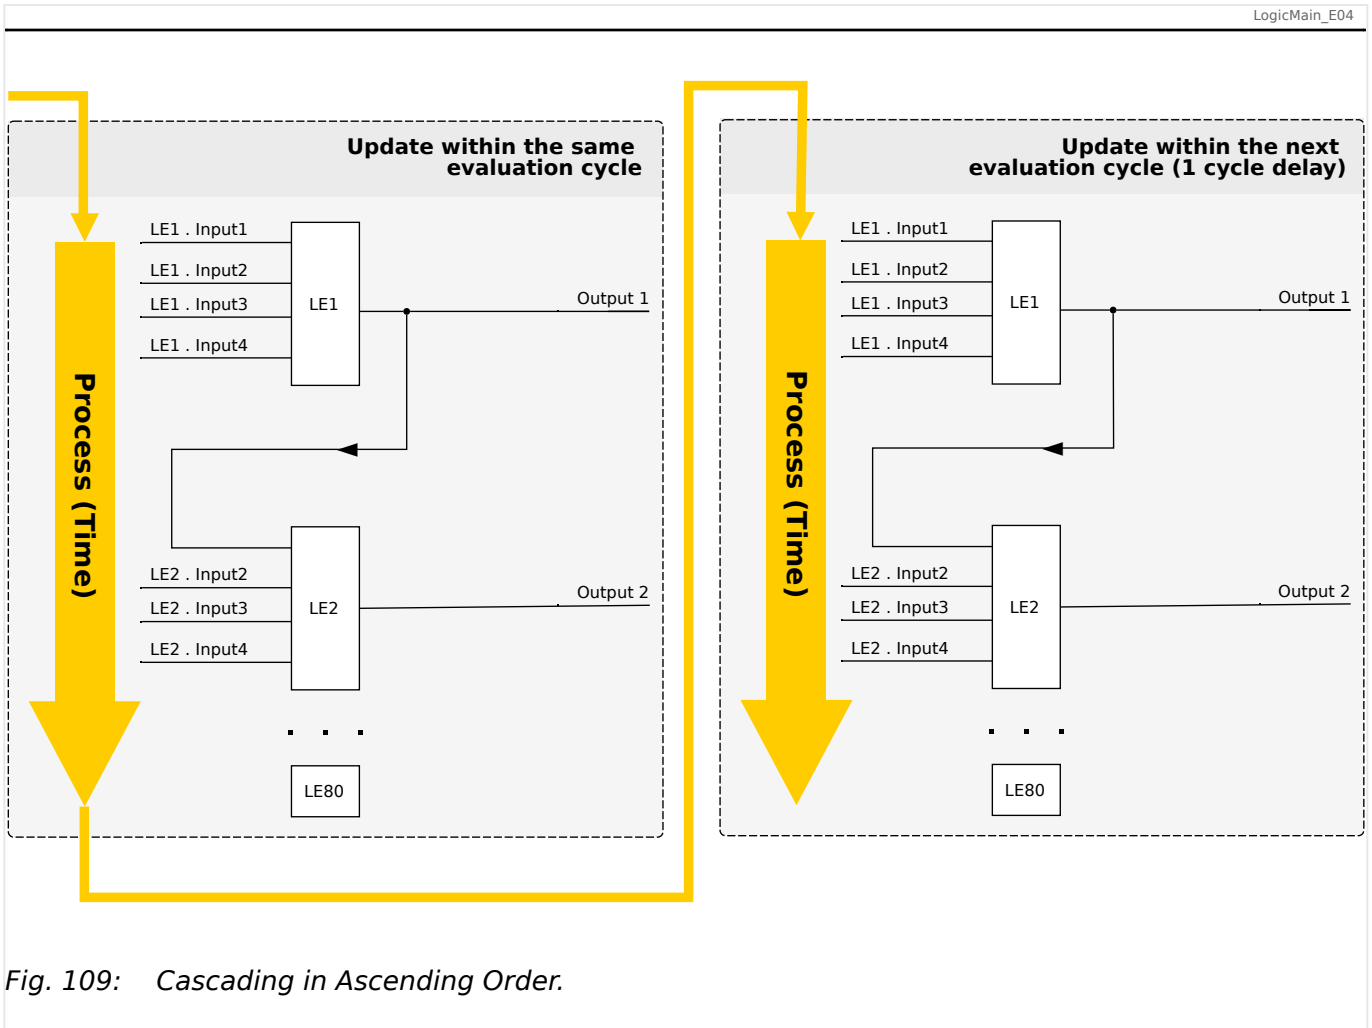
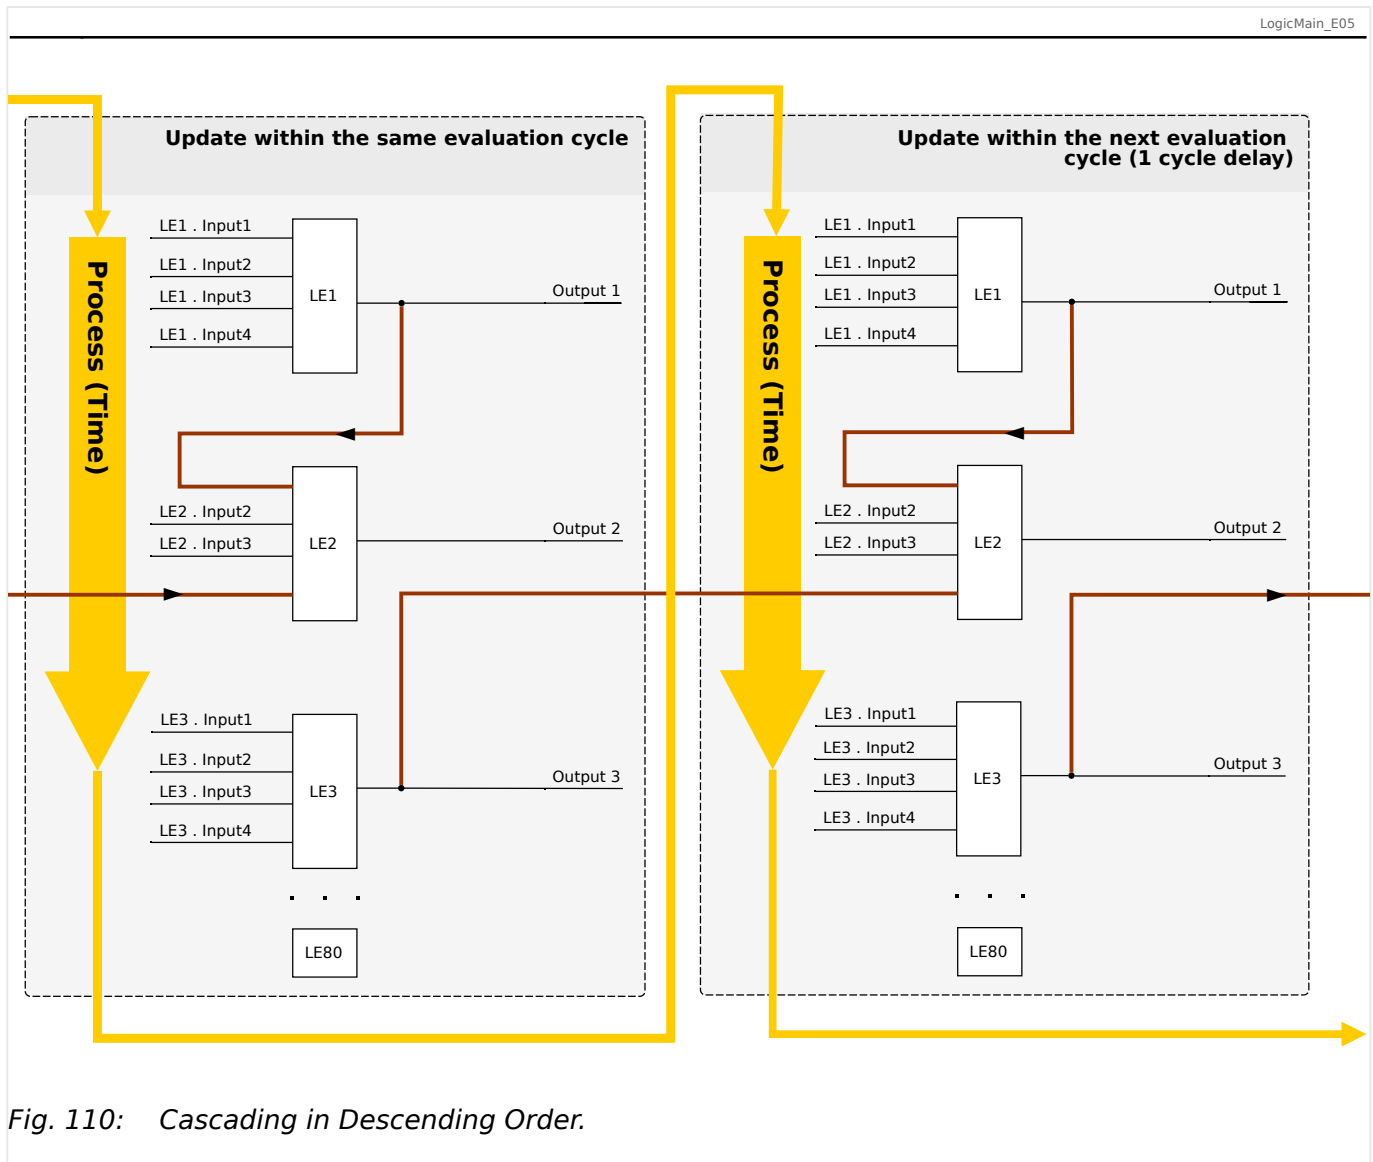

Fig. 109: Cascading in Ascending Order.
Fig. 110: Cascading in Descending Order.
- **Ascending** sequence means that some output is fed into the input of a logic equation with **higher** number. For instance, diagram  Fig. 109 below shows an example where the result of Logic Equation LE1 is used as an input of Logic Equation LE2.
- **Descending** sequence means that some output is fed into the input of a logic equation with **lower** number. For instance, diagram  Fig. 110 shows an example where the result of Logic Equation LE3 is used as an input of Logic Equation LE2.
Both ascending and descending sequences may be used and combined one with the other, with no immediate difference. However, due to the evaluation of all equations in ascending order the actual run-time values that are fed in at the input of an equation will have a different “age”, as is shown in  Fig. 109 and  Fig. 110 below.
In the example shown in Fig. 110 above, “Logic Equation 2” uses the output states of two other equations, “Logic Equation 1” and “Logic Equation 3”. The result of “Logic Equation 1” is used in ascending order and has therefore been evaluated within the same process cycle. The result of “Logic Equation 3” is used in descending order and has therefore been evaluated in the previous process cycle.